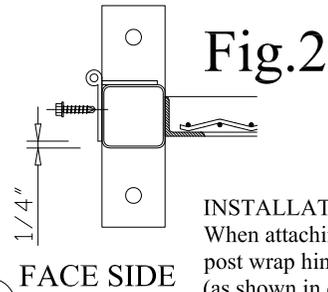
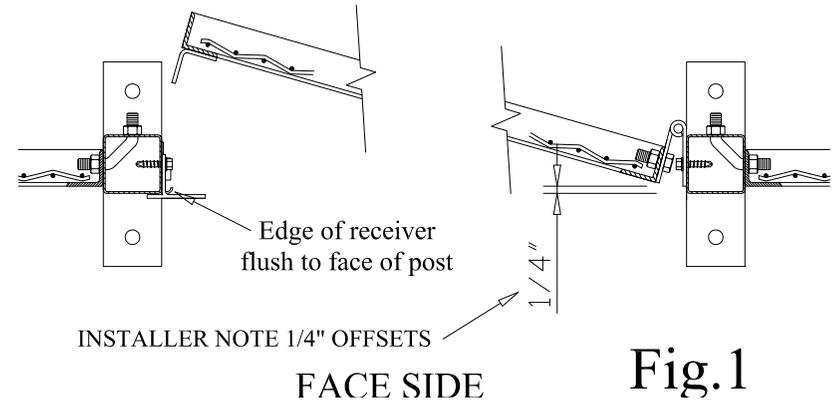

Fig.2
Fig.1
1. Install transom panel (A) at top of door opening, check opening width at floor, and anchor posts to floor. Check that posts are plumb and opening is square.
2. Attach hinges (B) to door post (C) using two self drilling screws per hinge.
- a. Note hinge placement offset detailed in Fig.1 and install tip in Fig.2.
3. Attach door panel (D) to hinges with two 3/8" x 1" bolts and nuts.
4. Attach pick plate (E) to door post (F) using four self drilling screws.
- a. Note pick plate position offset detailed in Fig 1.
6. Attach cylinder lock receiver (G) to door post (F) with two self-drilling screws.
7. Align padlock lug (H) with door padlock lug on door (D) and attach to post (F) with two self drilling screws.
- a. Note hinge placement offset detailed in Fig 1 and install tip in Fig. 2.
4. Attach pick plate (E) to door panel (D) using four self drilling screws. See Fig. 1.